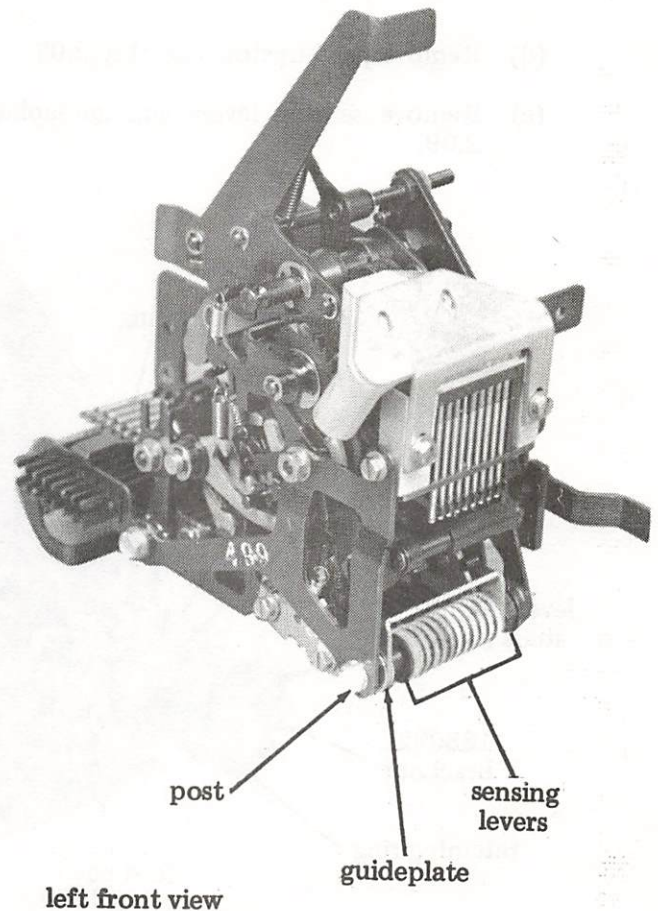

Figure 3 - Sensing Levers and Guideplate
2.09 Disassemble sensing levers and guideplate (Figure 3) as follows: